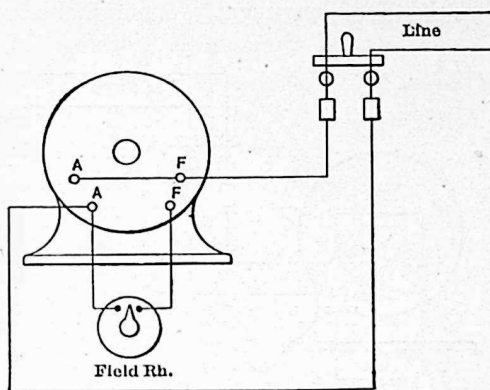

FIG. 160.
**Prob. 33.** Is the shunt generator of Fig. 160 connected correctly? If not, make the proper changes.
**Prob. 34.** Suppose that the upper wire in Fig. 160 (when generator is correctly connected) is (+) and it is desired to make it (-), what changes would you make?
**Prob. 39.** If the shunt generator of Fig. 160 failed to "build up" after it was connected according to a correct wiring diagram, what change in the connections would you make?
**Prob. 42.** Connect the generator of Fig. 160 to run as a motor. ("No-field" release on the box.)